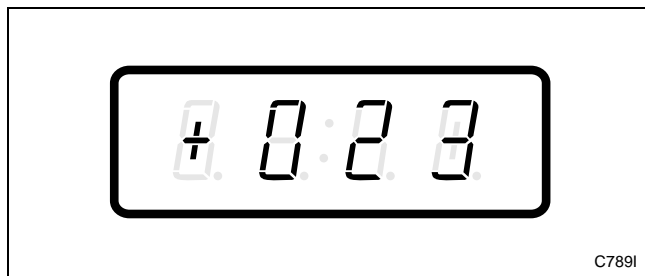

Figure 60
3. Press the DELICATES (+) or the COLD (-) keypad to scroll through the programmable options until “+023” appears in the VFD. Refer to *Figure 60*.